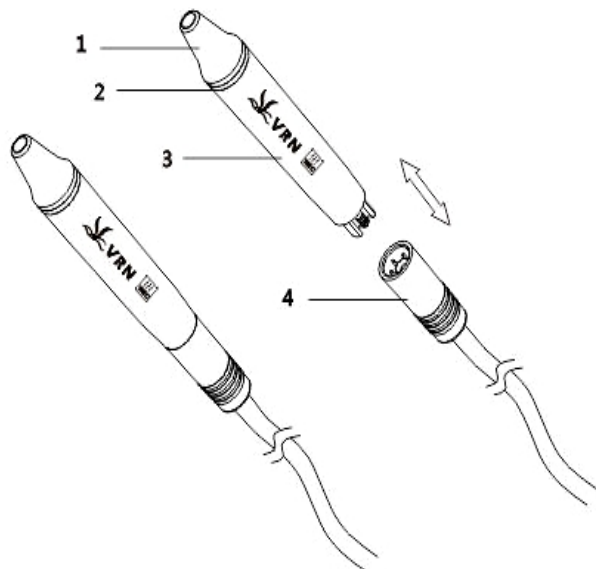
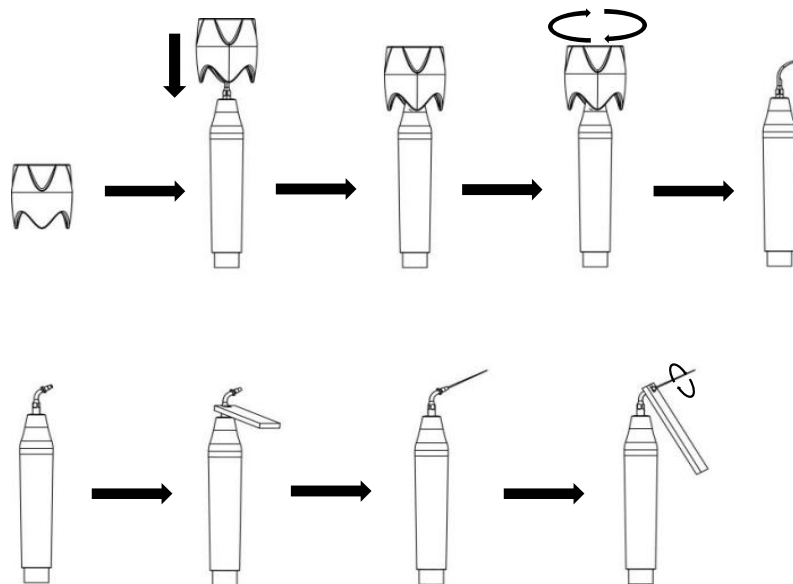

Figure 2.6
Figure 2.7
1) The design of torque wrench adopts a special structure, which can ensure the user can effectively load and unload the tip and protect the user's hand during use, and it can avoid be scratched by the tip when load and unload the tip (See Figure 2.7).
5) Fasten the tip to the handpiece with torque wrench (See Figure 2.7), and then correctly connect the handpiece with the handpiece cable socket. Before installing the handpiece, dry the connection end of the handpiece and the socket thoroughly (Figure 2.6).
- 1) Fix the holder of endo file to the handpiece with endo wrench (See Figure 2.7).